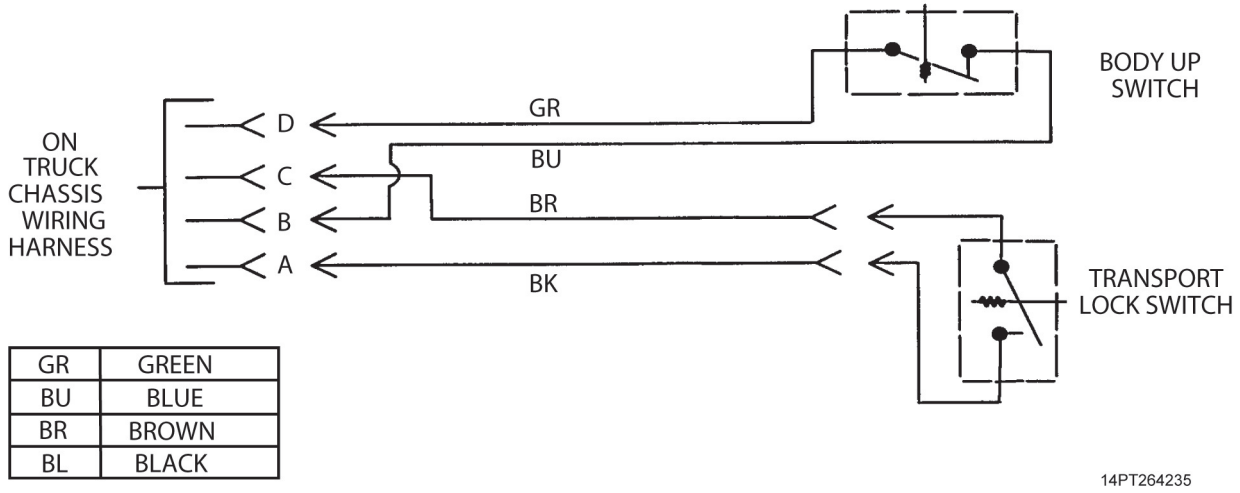

Figure 3. Body Up and Transport Lock Switch Diagram.
- Figure 3 Body Up and Transport Lock Switch Diagram.